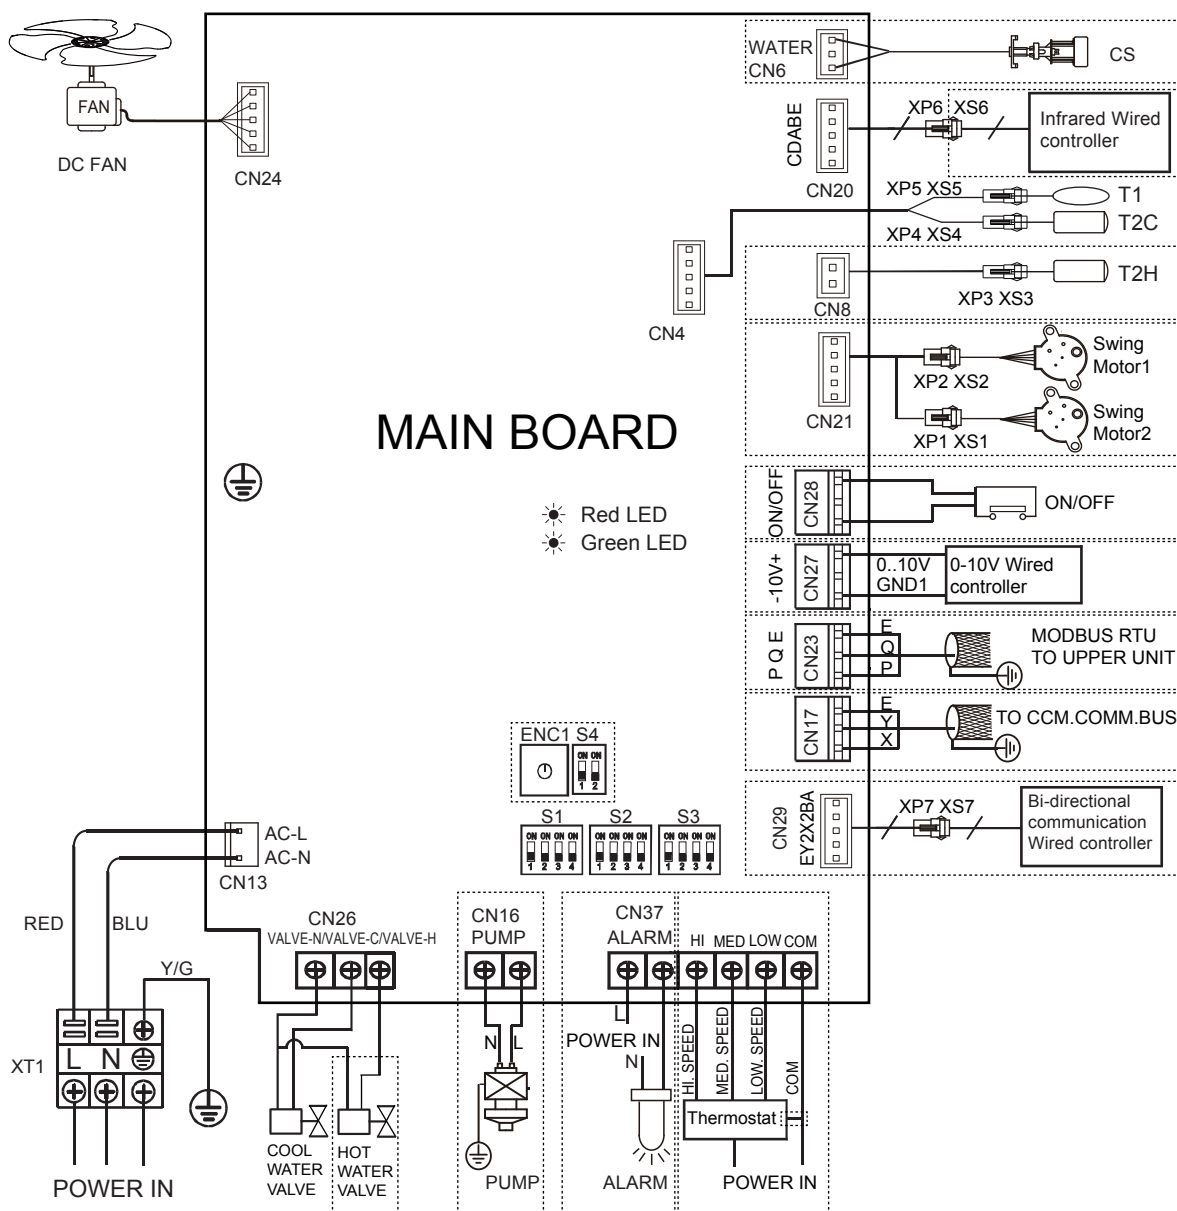
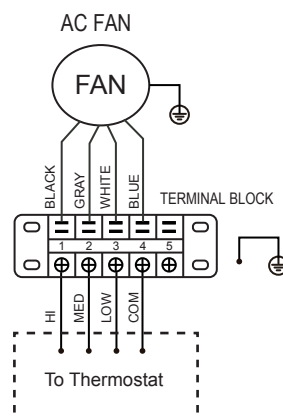

Figure 5-20 Wiring diagram (unit with inverter motor I-VM; I-VN)
Figure 5-22 Wiring diagram (version 3V-VM; 3V-VN)
- Perform electrical connections according to the wiring nameplate (Figure 5-20 or Figure 5-22) of the unit.